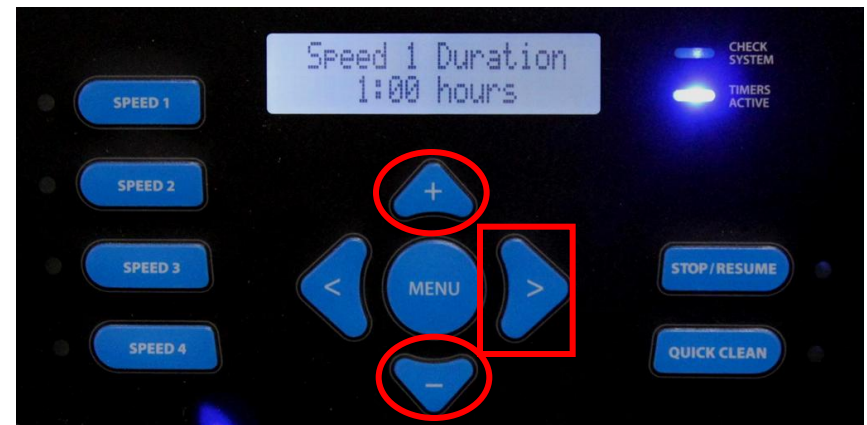

Fig 60
3. While in this screen you can change the Speed duration from 30 minutes to 12 hrs in 30 minute increments by pressing the  &  button (fig 60). Press the  button to continue.